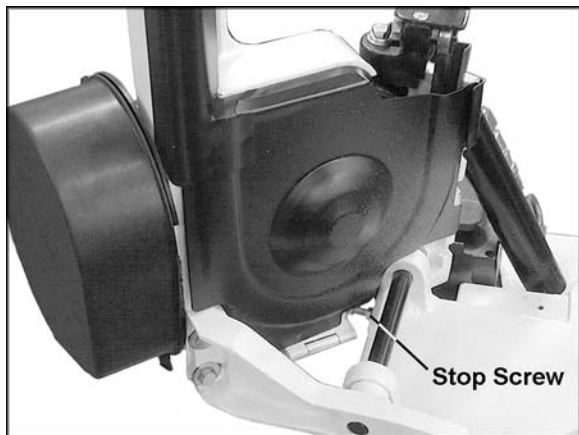

Figure 23
3. The stop screw (Figure 23) has been pre-set at the factory. If further adjustments are needed, loosen the hex nut and rotate the screw as needed. Re-tighten the hex nut.